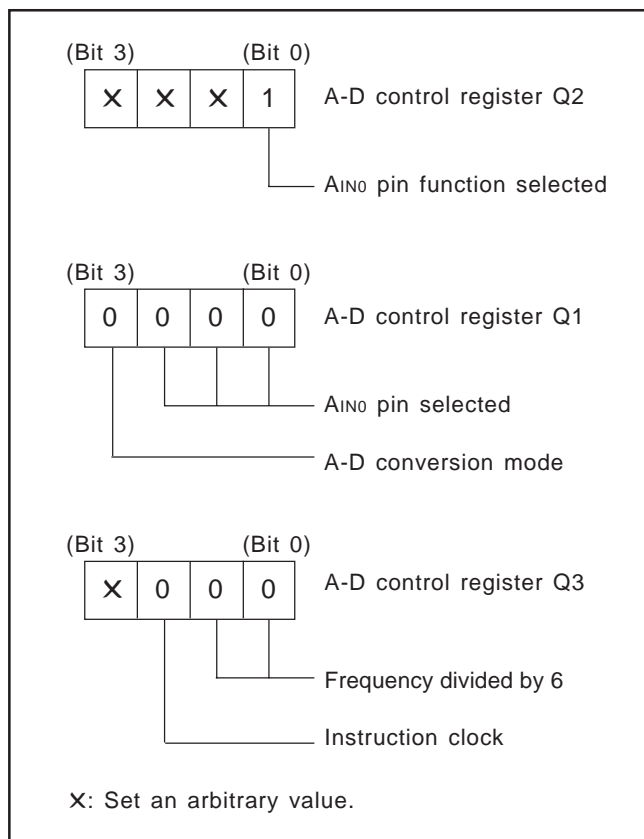

Fig. 37 Setting registers
- ① Select the AIN0 pin function with the bit 0 of the register Q2. Select the AIN0 pin function and A-D conversion mode with the register Q1. Also, the instruction clock divided by 6 is selected with the register Q3. (refer to Figure 37)
- ② Execute the ADST instruction and start A-D conversion.
- ③ Examine the state of ADF flag with the SNZAD instruction to determine the end of A-D conversion.
- ④ Transfer the low-order 2 bits of converted data to the high-order 2 bits of register A (TALA instruction).
- ⑤ Transfer the contents of register A to $M(Z, X, Y) = (0, 0, 2)$.
- ⑥ Transfer the high-order 8 bits of converted data to registers A and B (TABAD instruction).
- ⑦ Transfer the contents of register A to $M(Z, X, Y) = (0, 0, 1)$.
- ⑧ Transfer the contents of register B to register A, and then, store into $M(Z, X, Y) = (0, 0, 0)$.